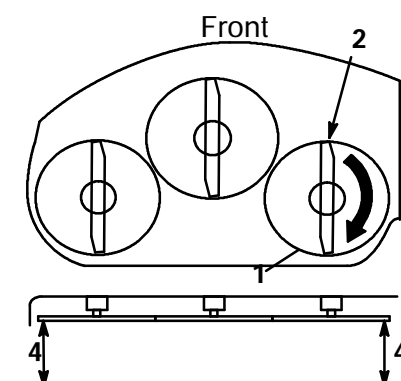
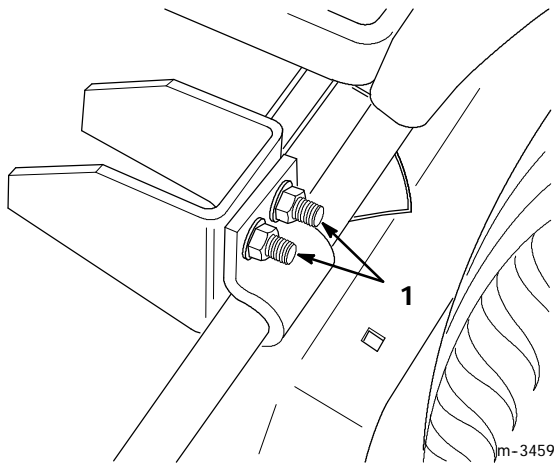

Figure 15
Figure 17
- Carefully rotate one of the blades so it is facing front and rear (Fig. 15).
- Measure the distance from the front tip of the blade (Fig. 15) to the flat surface. Then carefully rotate the blade tip until it is in the rear
Equalize side-to-side cut by adjusting the two carriage bolts (Fig. 17) on the mower. Check height of blade at outside blade tips as shown (Fig. 15).
5. Check the slope of one of the blades (Fig. 15).